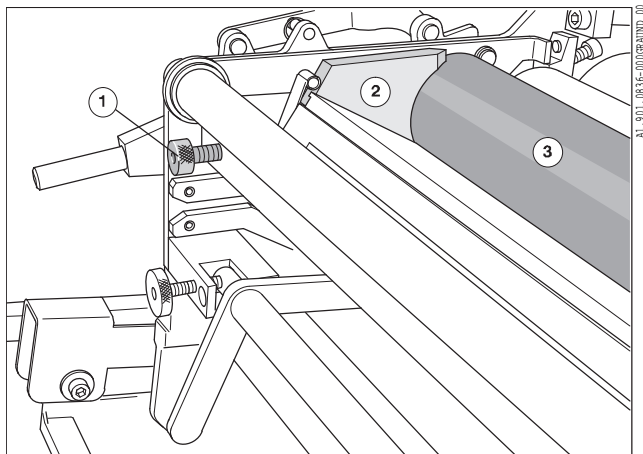

Fig. 20 Introducing ink in the ink fountain
1. Check that the ink fountain cheeks are inserted (Fig. 20/2) and that the ink fountain has been set against the ink fountain roller (Fig. 20/3) with the knurled screws (Fig. 20/1).